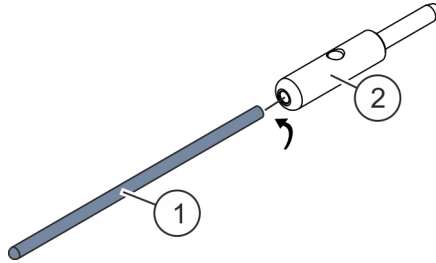

Fig. 12: Unscrew the valve needle from the needle bolt
7. ➔ Unscrew the valve needle (Fig. 12/1) from the needle bolt (Fig. 12/2).